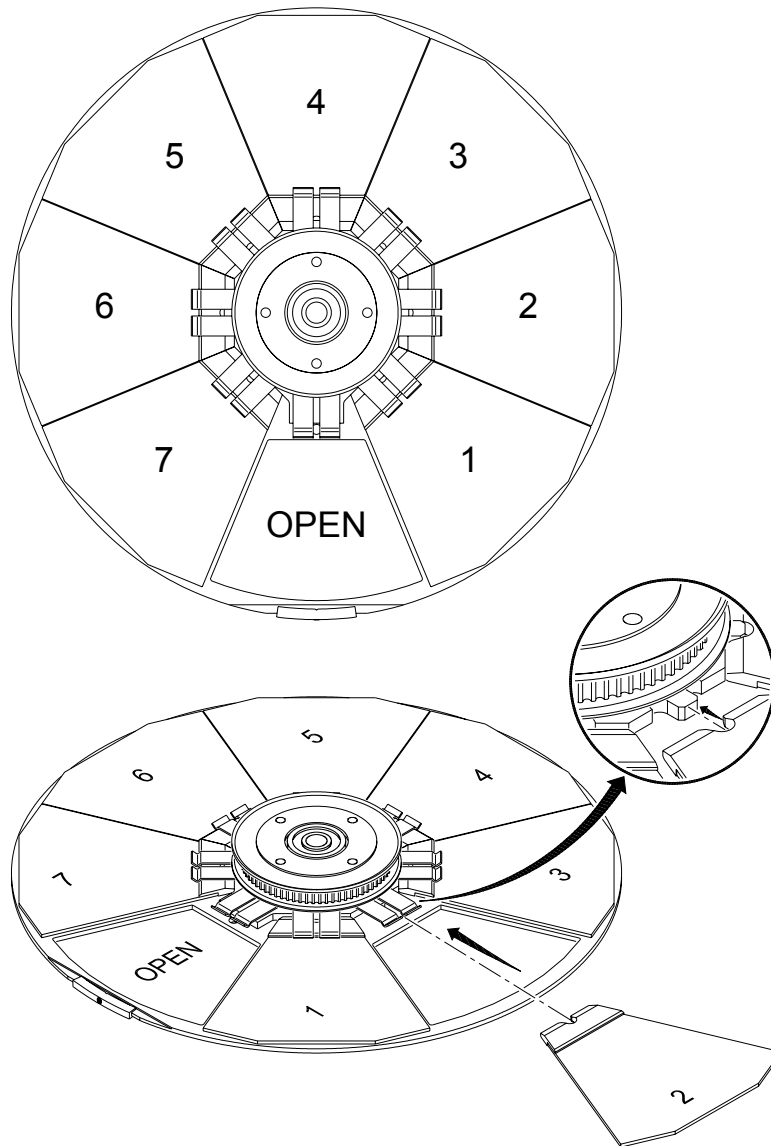

Figure 4-14: Designer Color Filter Positions
- Step 6. Noting proper orientation of carrier, insert new designer color filter into position and push until carrier clicks into place. Refer to Figure 4-14 on next page for an overview of designer filter positions.